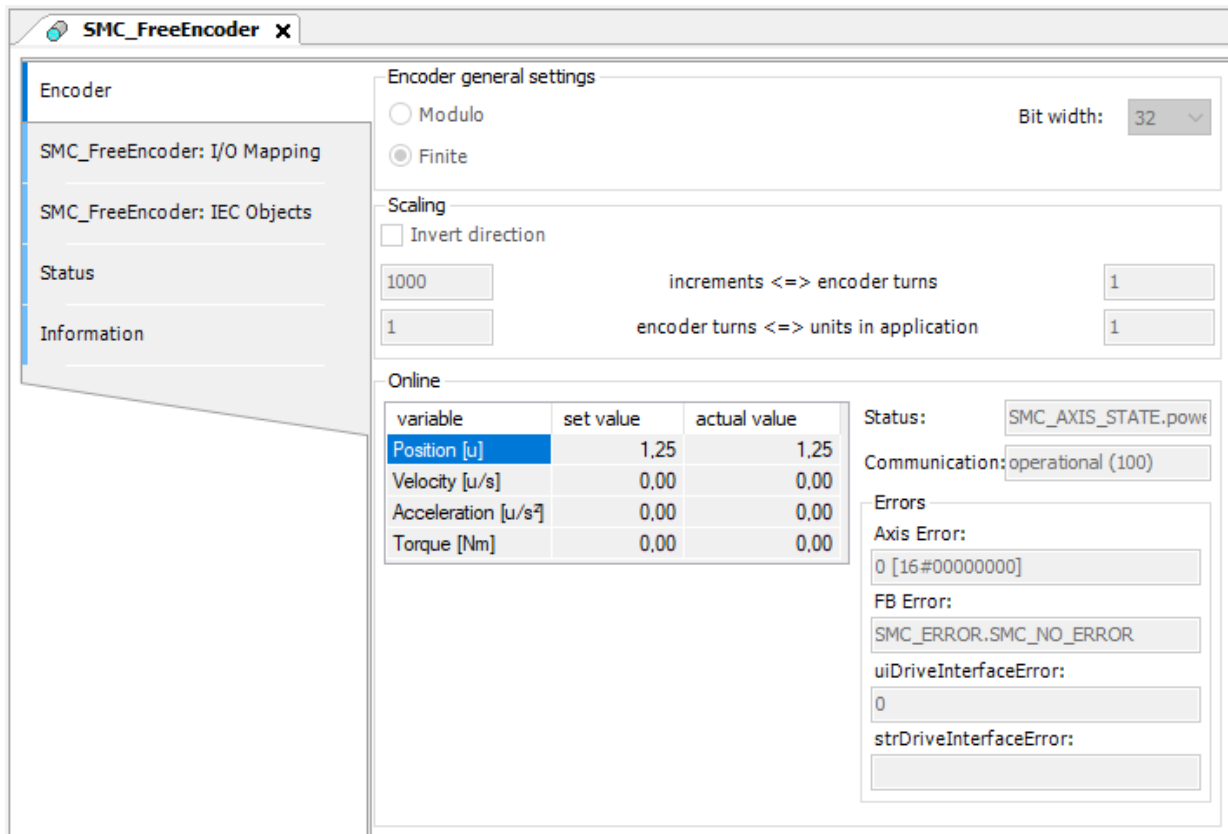

Figure 5.12: Monitoring encoder.
- Open the **SMC_FreeEncoder** settings on the **Encoder** tab, as shown in Figure 5.12.